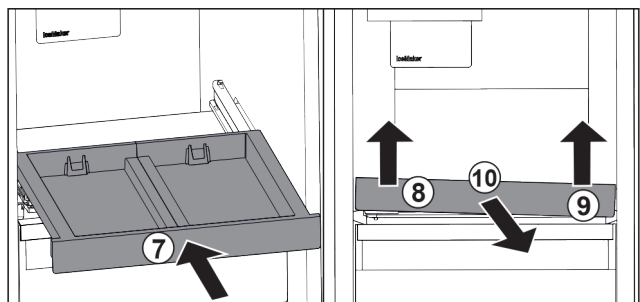

Fig. 196
- ▶ Slide in the pull-out board. Fig. 196 (7)
- ▶ Lift the pull-out board on the front left. Fig. 196 (8)
- ▶ Lift the pull-out board on the front right. Fig. 196 (9)
- ▶ Take out the pull-out board to the front. Fig. 196 (10)